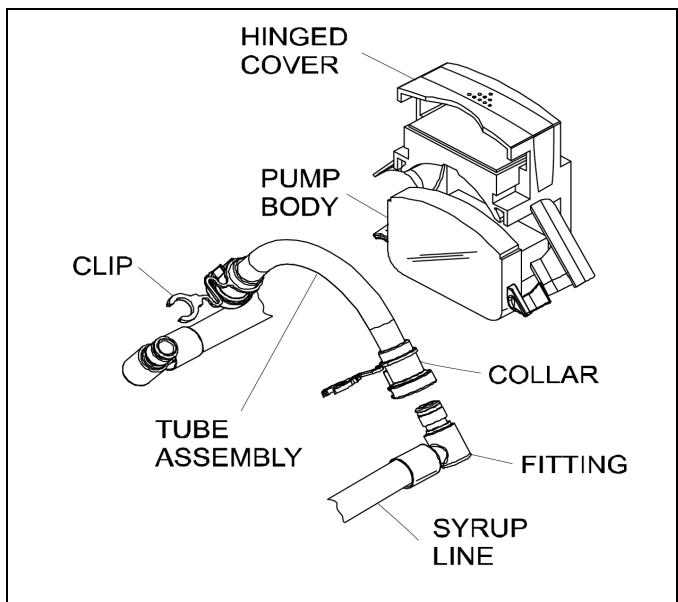

Figure-68
13. Grasp the pump tube by both ends and remove it from the pump body. (See Figure-68.)